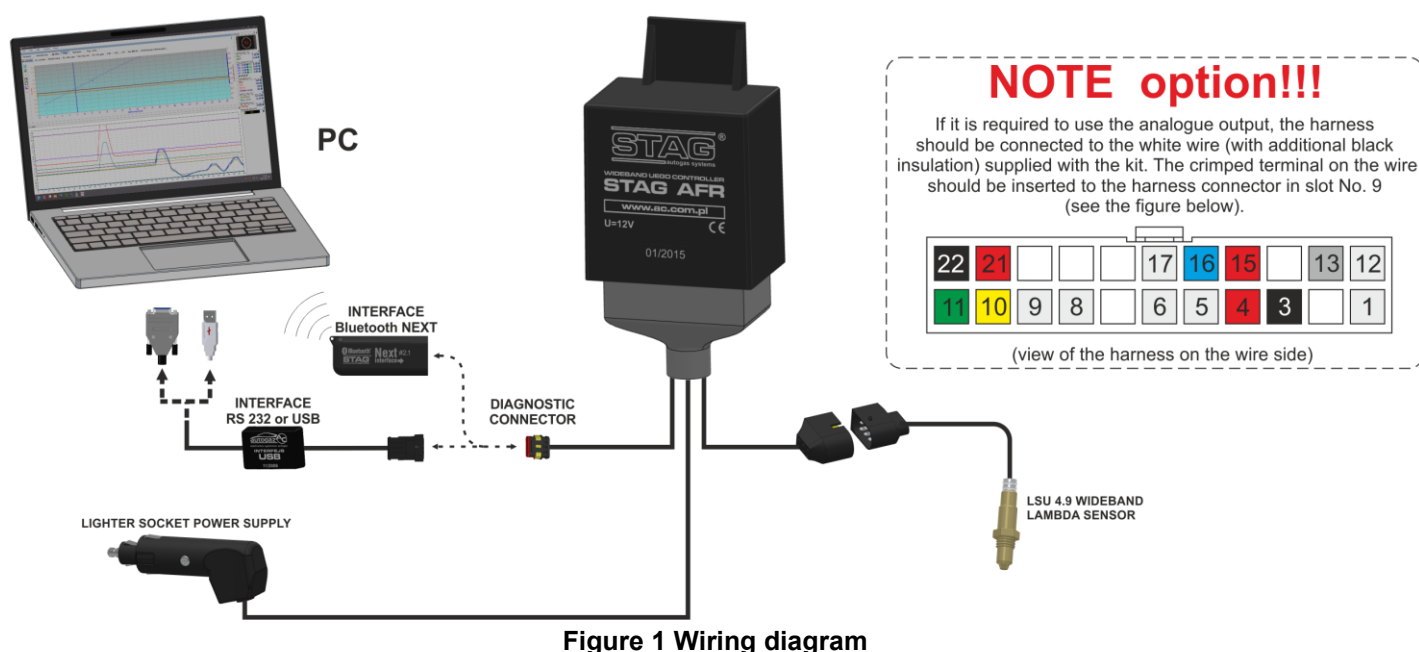

Figure 1 Wiring diagram
STAG AFR is provided with an analogue 0V to 5V output. It can be used to connect an external AFR indi-cator, as well as chassis dynamometers with an analogue input for the AFR reading, external data loggers and standalone/piggyback type ECM units. Activation of the option requires connecting an additional cable included in the kit to the harness, in accordance with Figure 1. Relation of the analogue output voltage level to the AFR and Lambda value has been presented in Table 1.
The system is also provided with an NB (narrow band) Lambda probe emulator function. The output signal is kept within 0.1V – 0.9V and this is ensured by connecting an additional wire to pin No. 8 in the controller connector (Figure 1). When the wide-band (WB) probe is cold, the output is in a high impedance state, i.e. it does not generate any voltage, which corresponds to the characteristics of a cold NB probe, so the ECU should work in an open loop (OL) mode. Additionally, the STAG AFR
controller is equipped with an in-built NB probe heater emulator, which can be connected to the ECU harness to avoid the occurrence of fault codes related to the probe heating circuit. In order to activate the emulator, connect respective wires to pins 1 and 12 in the STAG AFR controller connector (Figure 1).